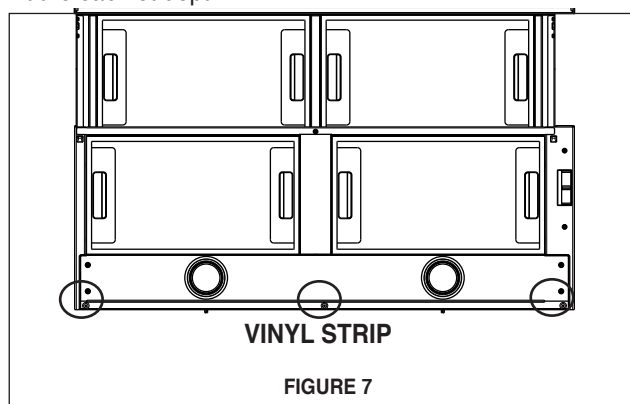

FIGURE 7
6. A grey vinyl strip (**FIGURE 7**) is included to cover the underside of any remaining exposed cabinet. Attach the grey vinyl strip to the bottom of the back of the rangehood with the three screws provided. If necessary, the strip can be cut to fit the cabinet depth.